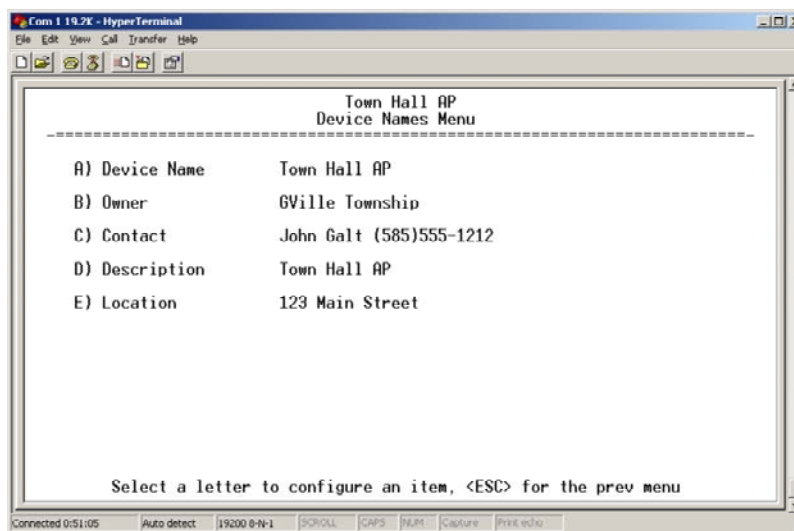

Figure 3-11. Device Names Menu
- **Device Names Menu**—Fields used at user's discretion for general administrative purposes. The Device Name field is used by the transceiver as the "Realm" name for network security and in the MS screen headings. (See Figure 3-11 on Page 41)